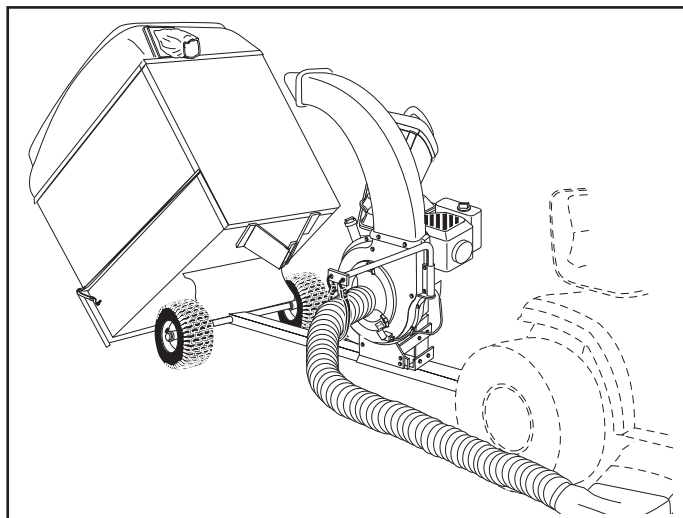

FIGURE 28
- Release the latch holding cart down to the tongue by pulling up on the latch lever. See figure 28.